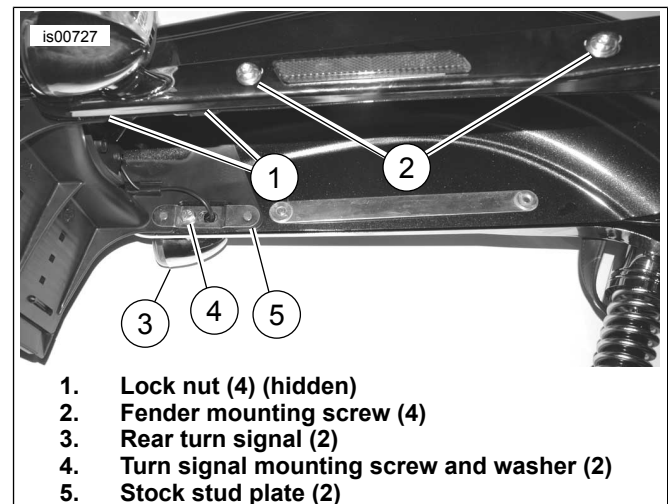

Figure 2. Stock Stud Plate and License Plate Bracket
7. See Figure 2. Remove screw (4) and washer from inside of the fender and remove the rear turn signal (3). Discard screw and washer. Repeat for opposite side.
8. See Figure 2. Loosen two screws (2) to allow access to the two hidden lock nuts (1). Repeat for opposite side.
9. See Figure 2. Locate the four lock nuts (1) hidden by the fender strut covers. Remove two stud plates (5), four nuts (1) and license plate bracket. Save nuts for re-installation.
18. Route the turn signal wire (4) flat between the license bracket and fender, towards the rear of the motorcycle as shown. Do not route the turn signal wire under the rear stud plate (1). Repeat for opposite side.
19. Install four nuts (5) removed in Step 9 to the four studs, between the fender strut and fender strut cover. Tighten to 5.4 N·m (48 in-lbs). Do not overtighten the nuts.
20. See Figure 2. Tighten screws (2) to 25 N·m (18 ft-lbs). Repeat for opposite side.